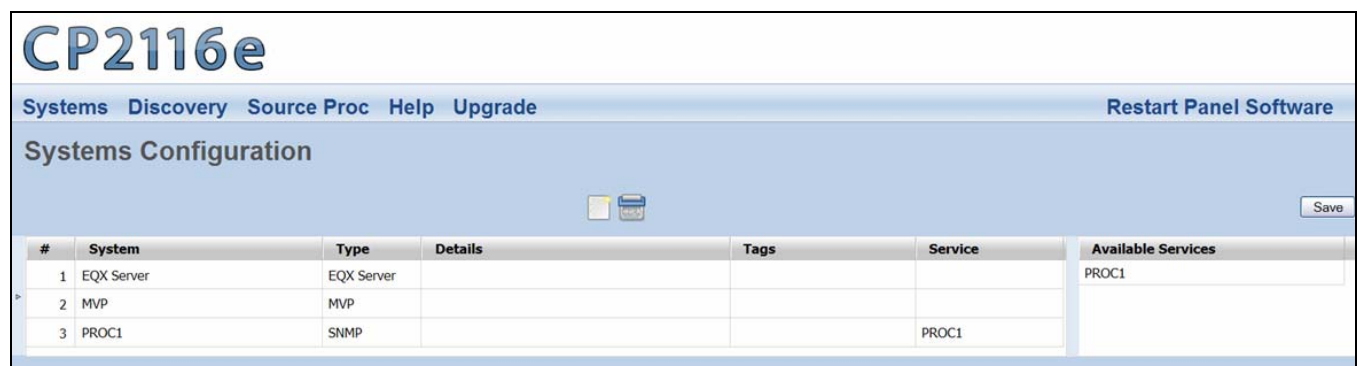

Figure 5-1: Systems Page
- b. Navigate to the **Systems** page as shown in Figure 5-1 and click the  icon.
2. Navigate to the **Systems** page as shown in Figure 5-1 and click the  icon.